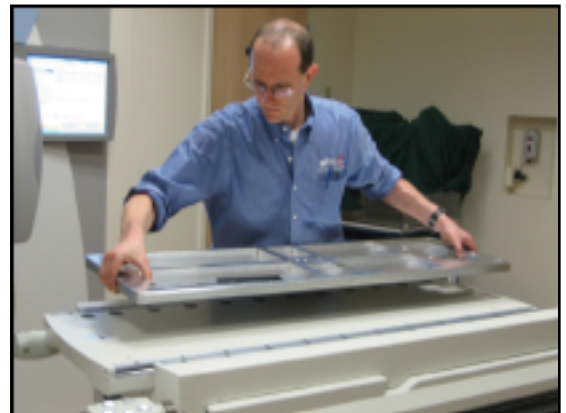

Fig. 9
4. The un-machined side should be face down on the Elekta Precise® cradle (Fig. 9).